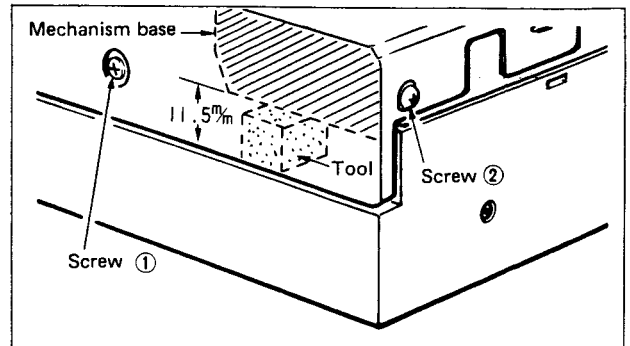

Fig. 4
- Check the standard height between the mechanism base and the cabinet. (11.5 mm: see Fig. 4)
3. Connect the voltmeter between TP501 pins ④ and ① on the control P. C. Board.
5. Then, adjust VR501 so that the voltage between TP501 pins ④ and ① is DC 4.8 V  $\pm$  0.05 V.
6. Move the tonearm back to the center, and adjust the screw in the tonearm rest part so that the voltage between TP501 pins ④ and ① is DC 1.9 V  $\sim$  2.0 V in the tonearm DOWN mode.
Check the standard height (11.5 mm; see Fig. 4) between the mechanism base and the cabinet.